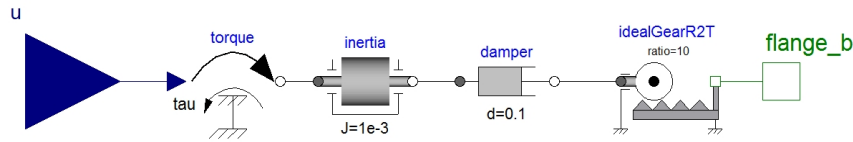
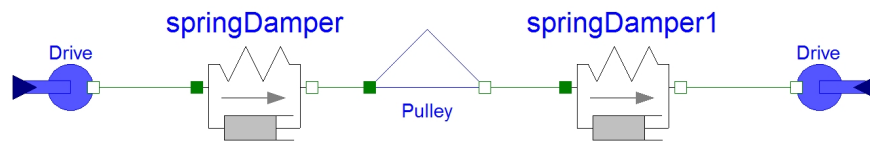

Figure 12: Dymola model of a drive/spool.
Figure 13: Dymola model of coupled drives
We will use this model as a sub-model, so we need inputs and outputs: Use `Modelica.Blocks.Interfaces.RealInput` as input, and connect to the Torque-block. Use `Modelica.Mechanics.Translational.Interfaces.Flange.b` as output, and connect to the `IdealGearR2T`. If you like, open the Icon-view of the model and draw for example a circle and rectangle to represent the drive. The drive model is illustrated in Figure 12. (A possible icon for the model can be seen in Figure 13.)
- (f) Put together the entire model to get something like Figure 13. Note how the force on Spool 2 now